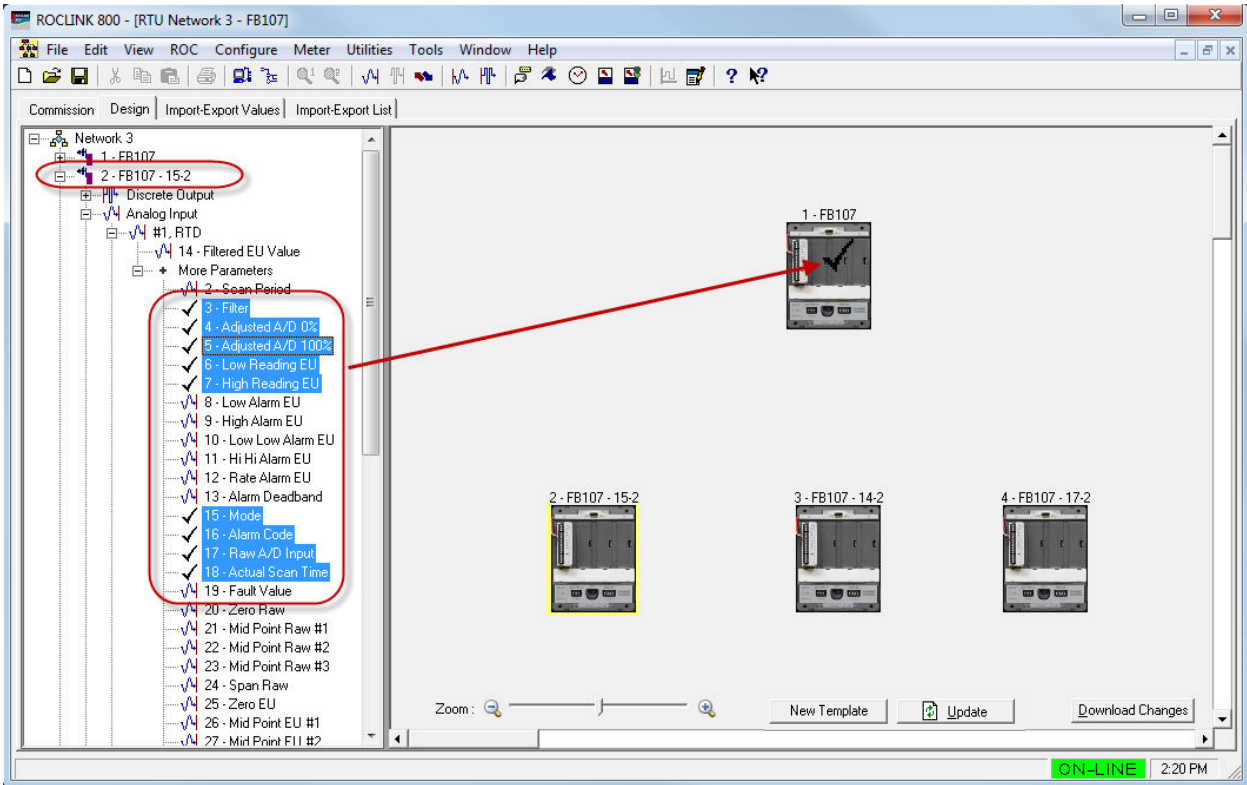

Figure 3-19. Expanded Values in Device Tree (1)
1. Select the device in the design workspace. The device tree displays all the device point categories available to export to another device and all currently defined imports and exports (see *Figure 3-19*).